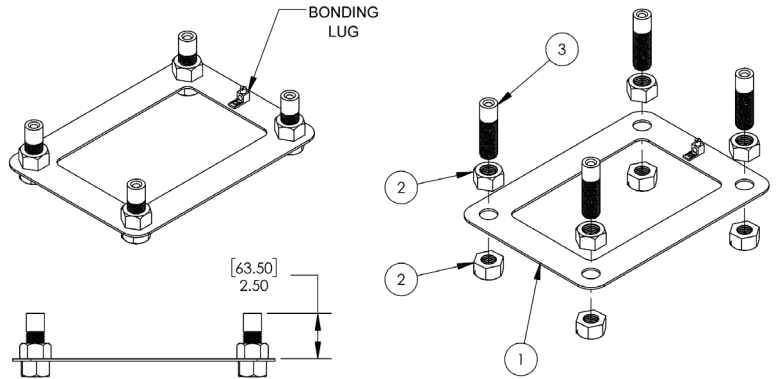

Figure 3 | Anchor Jig Assembly
1. Assemble the Velocity Advantage Anchoring Jig by threading the flush deck anchor as shown in Figure 3 until the top of each flush deck anchor is 2.5" (63.5mm) from the top of the anchoring plate. Measure to verify.